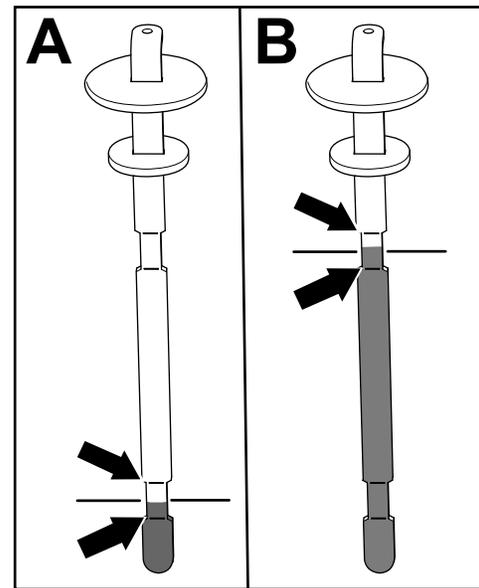

Figure 85
5. Remove the dipstick and check the fluid level (Figure 85).
- **If you have a cutting unit equipped:** The hydraulic-fluid level is at the appropriate level when the fluid appears between the lower 2 marks on the dipstick (A in Figure 85). It is also acceptable for the fluid level to be above the lower marks.
- **If you have the Hydraulic Driven Attachment Hose Kit equipped:** The hydraulic-fluid level is at the appropriate level when the fluid appears between the upper 2 marks on the dipstick (B in Figure 85).